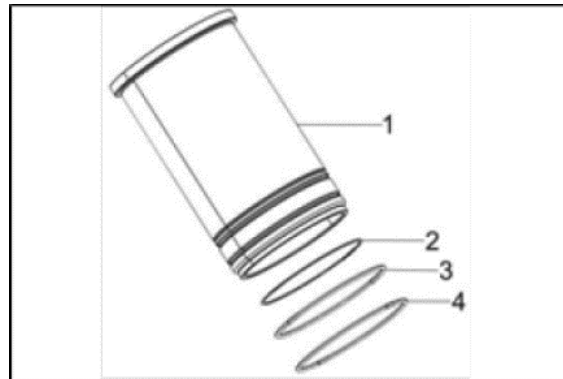

Figure 87.
4. Disassemble the O-rings from the cylinder liner (Figure 87).